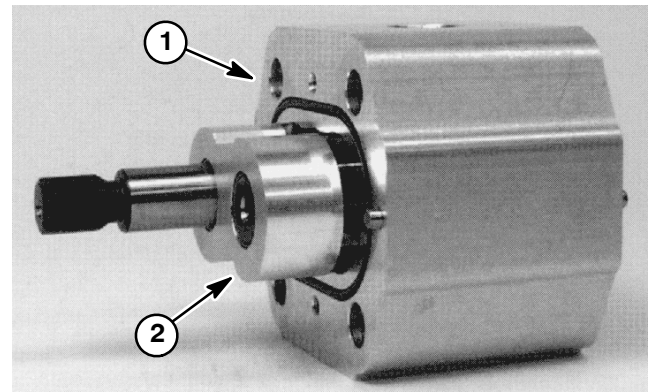

Figure 66
7. Place the motor on its side and push on the rear bearing block to remove the bearing block and gear set (Fig. 66).